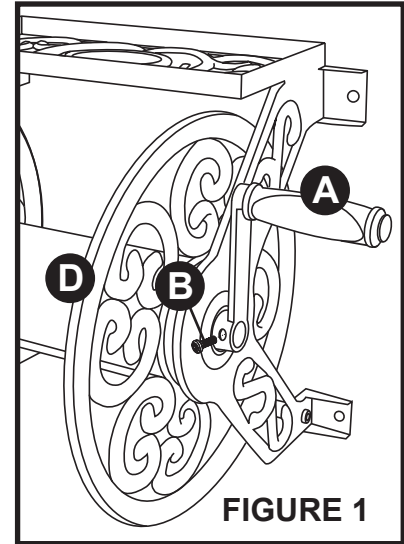

FIGURE 1
1. Align the holes in the crank handle (A) with crank handle shaft. Tighten the crank handle Allen screw (B) using the Allen wrench provided. Do not overtighten crank handle screw. **Figure 1**